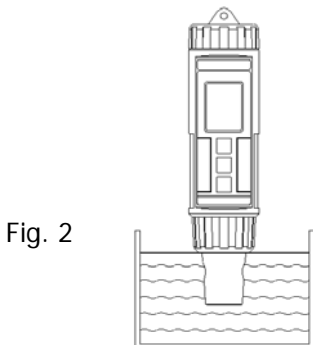

Fig. 2
- 2) Hold the meter by hand and immerse the " Sensing Electrode " (3-6, Fig. 1) immersed wholly into the measured solution. Shake the " Sensing Electrode " to let the electrode's internal air bubble drift out from the sensing Electrode, refer to Fig. 2.